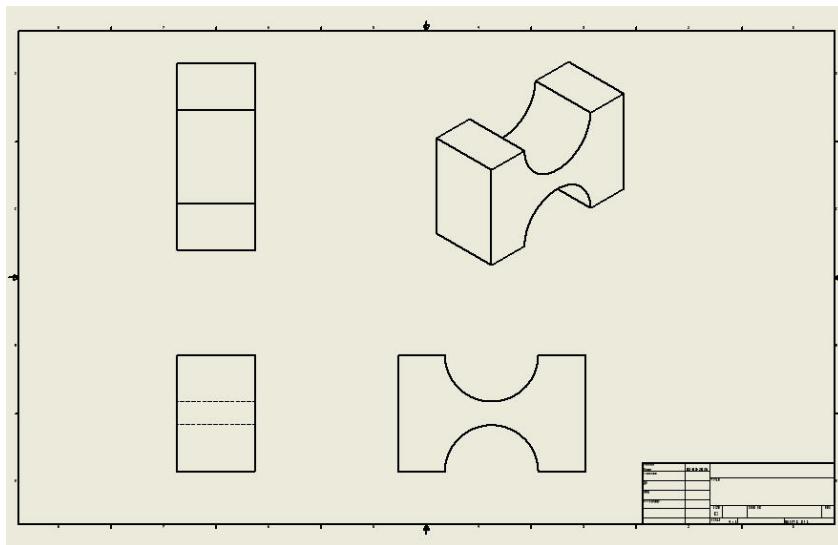

Figure 2-97 Drawing sheet after generating the drawing views
5. Similarly, taking the front view as the parent view, generate the drawing of right-side view and the isometric view, as shown in Figure 2-97.